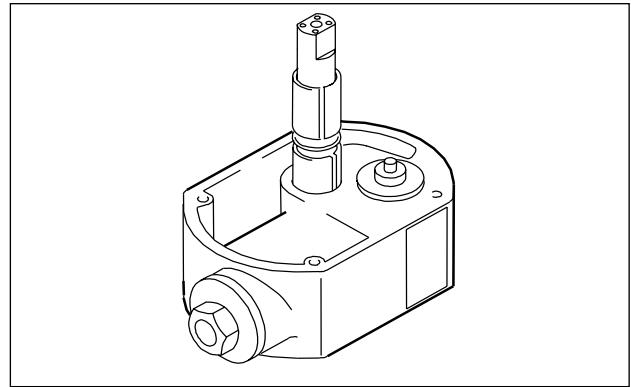

Fig. 17
- For assembly of plain bearing bushings and seal ring it is recommended to use the piston rod for guidance. Take care to assemble the plain bearing bushings with the slits offset to each other (Fig. 17).